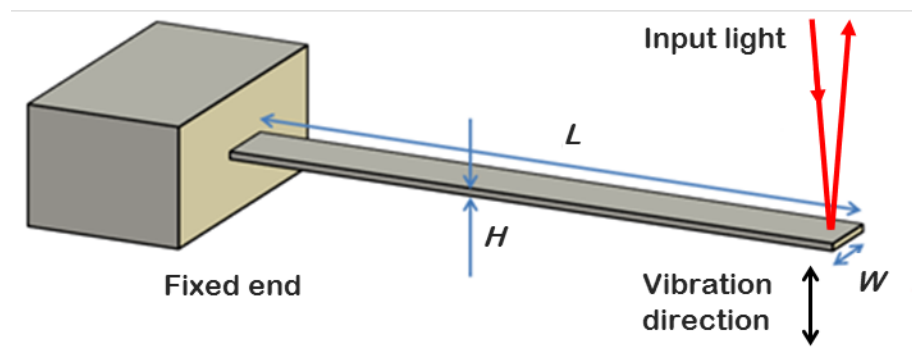

Figure PS1.1
- Photons, just like any other particle, carry momentum. This means a beam of light can actually exert an impulsive force on an object upon reflection. This problem examines a cantilever system to detect radiation pressure force. In particular, consider the macro scale fixed-free beam (cantilever) show in Fig. PS1.1, constructed of glass (Young's modulus  $E = 75$  GPa, density  $\rho = 2200$  kg/m3) with dimensions  $L = 1$  m,  $W = 10$  cm,  $H = 5$  cm. An input light beam from a laser (with wavelength  $\lambda = 1550$  nm) hits the tip of this cantilever-shaped mirror and reflects back from the surface.
where  $E$  and  $\rho$  are the Young's modulus and density of the structural material, and dimensions are given in Figure PS1.1.